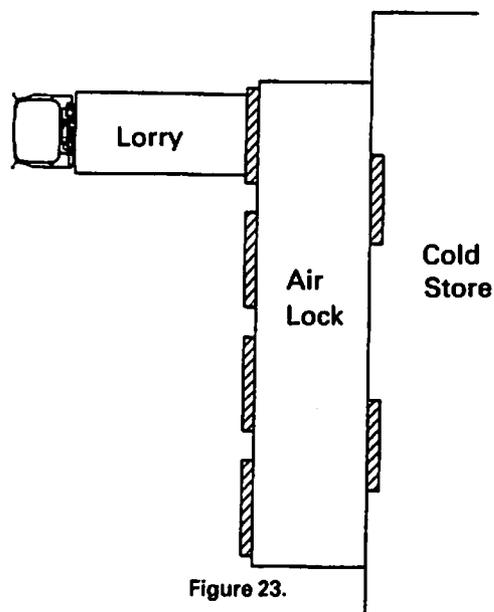
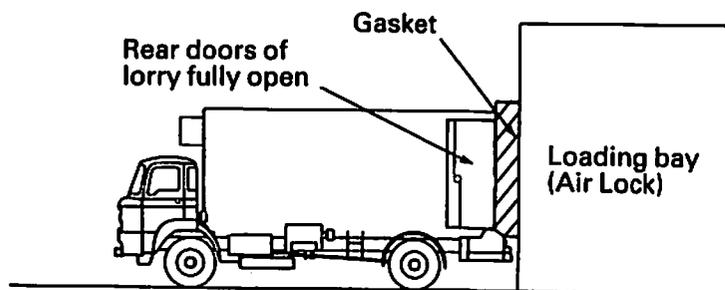

Figure 23.
Figure 24.
These should have an air-lock system and prevent the direct inflow of air from the outside when the doors are opened. An example of this can be seen in the figures 23 (below) and 24 (overleaf).
Figure 23 shows a plan of a cold store with an air-lock at the entrance. Figure 24 shows a side elevation of the store with a lorry backing up to the loading bay and you should notice the use of a rubber cushion which reduces the exchange of air between the inside and the outside of the cold store.
- Fitting an air lock – look back to figure 23;